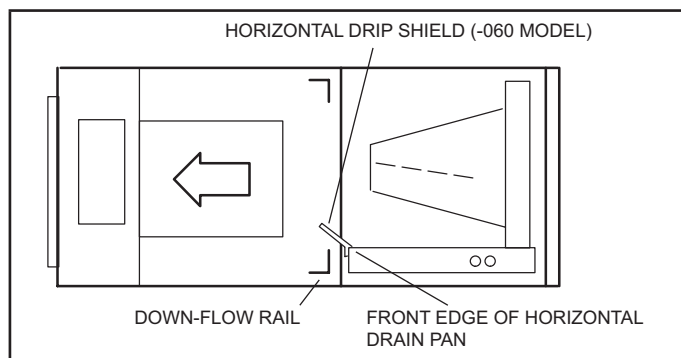

FIGURE 8. Left-Hand Discharge Configuration
- 10 - Install the horizontal drip shield (-060 model) on the front edge of the horizontal drain pan as illustrated in figure 8.